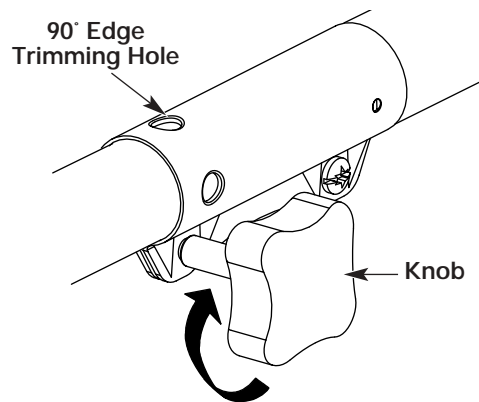

Fig. 11
- Turn the knob clockwise to tighten (Fig. 11).
For decorative trimming/edging with the **line head cutting attachment**, lock the release button of the cutting attachment into the 90° hole (Fig. 11).